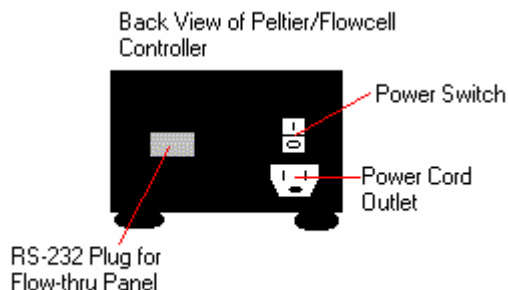

Figure -21 Back View of Peltier/Flowcell Controller
Step 12 Connect the 9-PIN Cable from the Flow-Thru Panel to the back of the Peltier/Flowcell Controller (Figure-21).